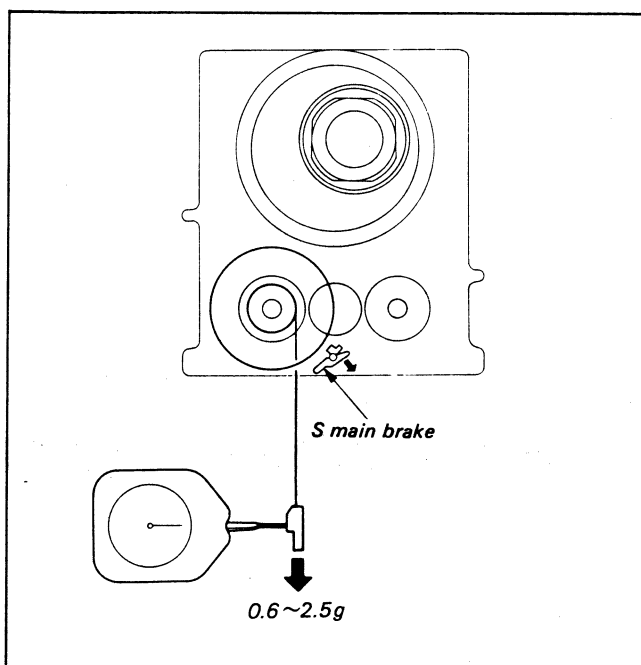

Fig. 3-64.
- 4) Pull the dial tension gauge (Ref No.J-6) in the direction of the arrow and confirm that the specifications are satisfied. (Fig. 3-64)